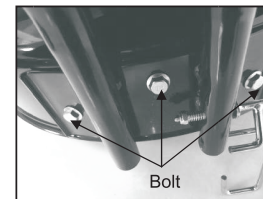
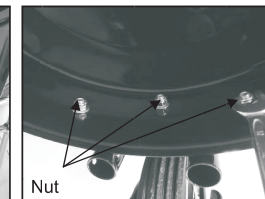

Fig.4A
Fig.4B
1. Fix the front caster wheel holder into the deck body with three hexagon bolts and hexagon locking nuts, adjust the tension by turning the locking nut with a suitable wrench (Fig. 4A /Fig.4B)